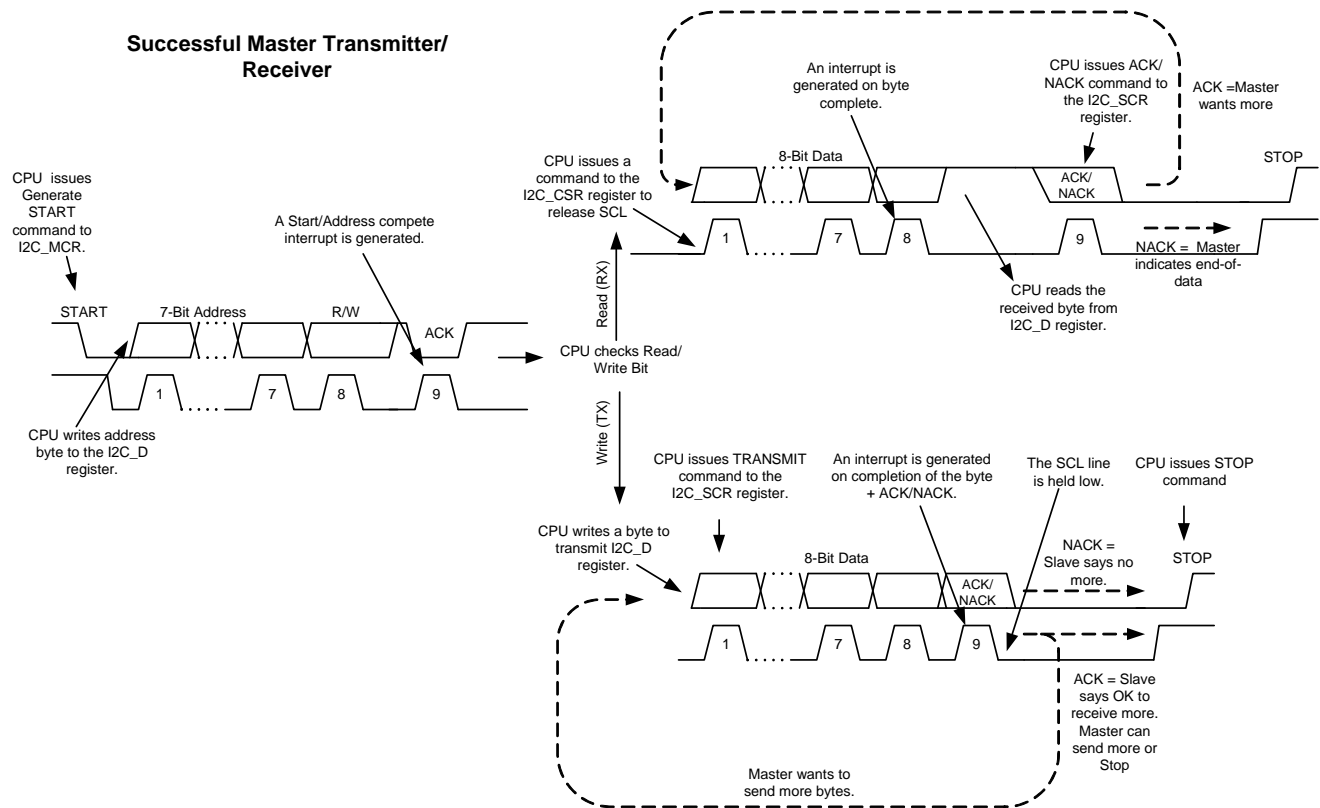

Figure 28-3. Master Operation
Figure 28-3 is a graphical representation of a typical data transfer from the master perspective.
**Bit 0: Enable Slave.** When the slave is enabled, the block generates an interrupt on any Start condition and an address byte that it receives, indicating the beginning of an I2C transfer. When operating as a slave, the block is clocked from an external master. Therefore, the block will work at any frequency up to the maximum defined by the currently selected clock rate. The internal clock is only used in Slave mode, to ensure that there is adequate setup time from data output to the next clock on the release of a slave stall. When the Enable Slave and Enable Master bits are both '0', the block is held in reset and all status is cleared. See Figure 28-3 for a description of the interaction between the Master/Slave Enable bits. Block enable will be synchronized to the SYSCLK clock input (see “Timing Diagrams” on page 489).